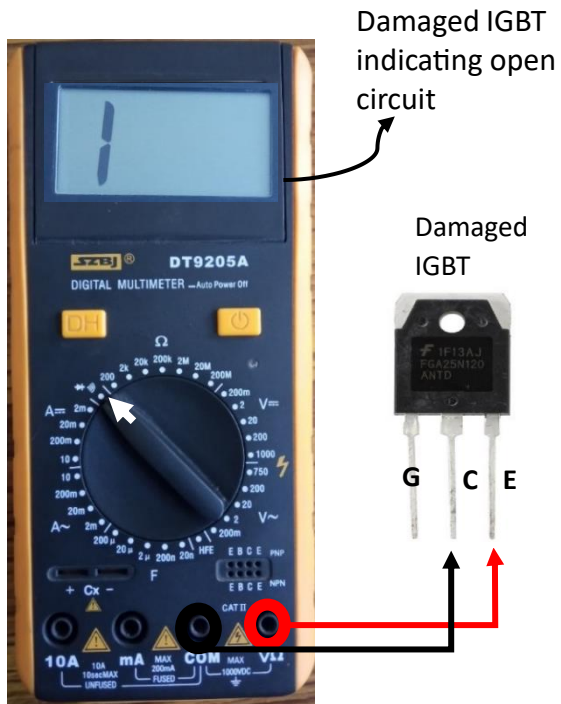

Figure 29
- 2) Now, connect the red probe of the multimeter to the emitter pin (E) of the IGBT, and the black probe to the collector pin (C) of the IGBT. Doing this, if you see a specific reading on the multimeter (usually between 300 and 800), as shown in Figure 29, will ensure a proper connection between the C and E pins of the IGBT. For additional testing procedures, refer to process number 4. Otherwise, if the multimeter indicates an open circuit as shown in Figure 32, or a continuity as shown in Figure 33, it means the IGBT is faulty. When indicating continuity, the multimeter will produce a 'beep' sound and the LED will also light up. In the case of an open circuit, the multimeter will display 'OL' or '1' on the screen.